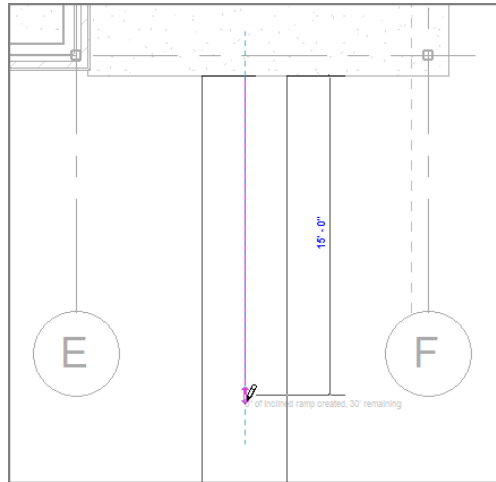

FIGURE 10.83: Pick the first point on the landing, and then move your cursor down 15'-0" (4500mm).
17. In the model, click the first point for the ramp, similar to the point shown in Figure 10.83. (You have to place the point near the midpoint. Revit doesn't allow you to snap while in Sketch Mode.)
18. Move your cursor down the view (south) 15'-0" (4500mm), as shown in Figure 10.83. (You'll see the temporary dimension.)